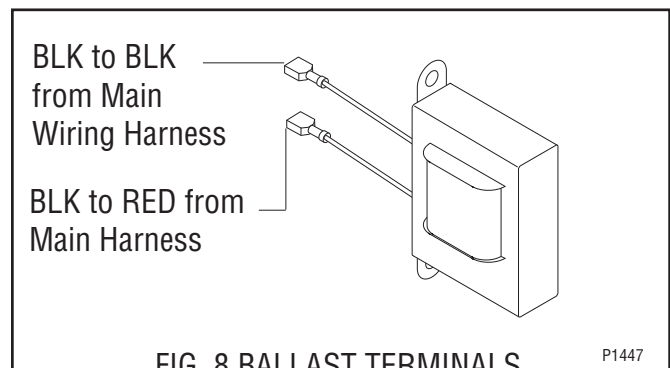

FIG. 8 BALLAST TERMINALS
6. Refer to Fig. 8 and reconnect the wires.